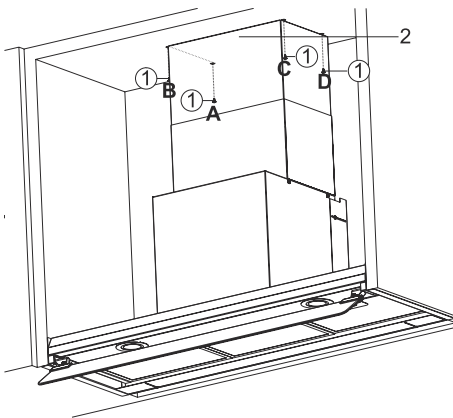

Fig. 16
7. → Pull the interior flue up to the top section of the cabin (Fig. 16).
Using the 4 connection screws through the A, B, C, D points to the kitchen cabin (Fig. 16).